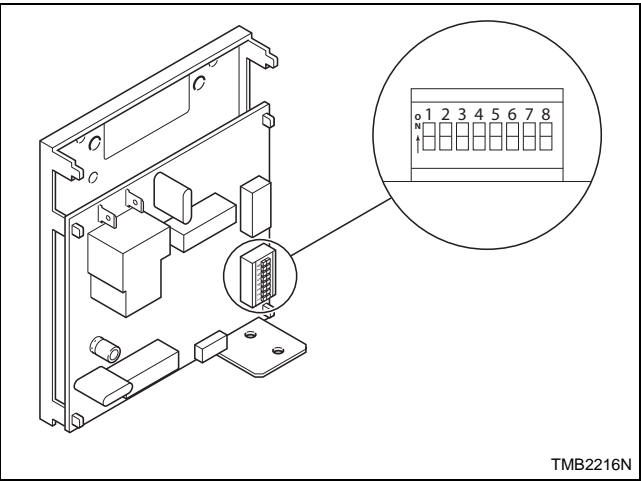

Figure 42
2. Write down machine control dip switch settings, then set them all to the off position. Refer to *Figure 42*.